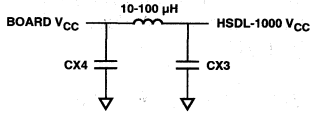

Figure 19c. PI Filter.
- Implement a PI filter on  $V_{CC}$  as shown in Figure 19c.